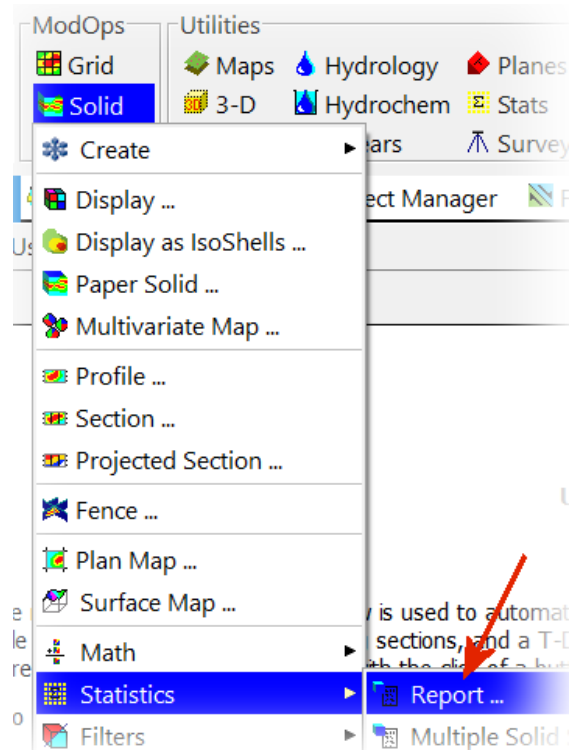

Figure 23
- Next, select the *ModOps / Solid / Statistics / Report* option (Figure 23).